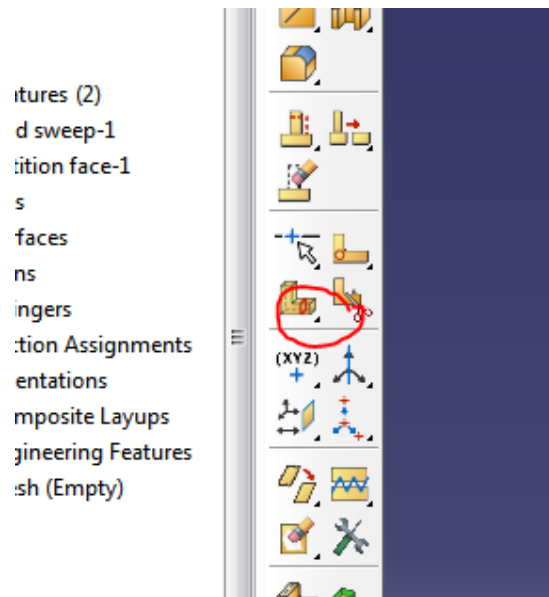

Figure 5. How to find the **Partition Cell: Extrude/Sweep Edges** tool
3. Create a cut through the part by using the **Partition Cell: Extrude/Sweep** tool. The tool can be found by pressing the small black triangle encircled in Figure 5.